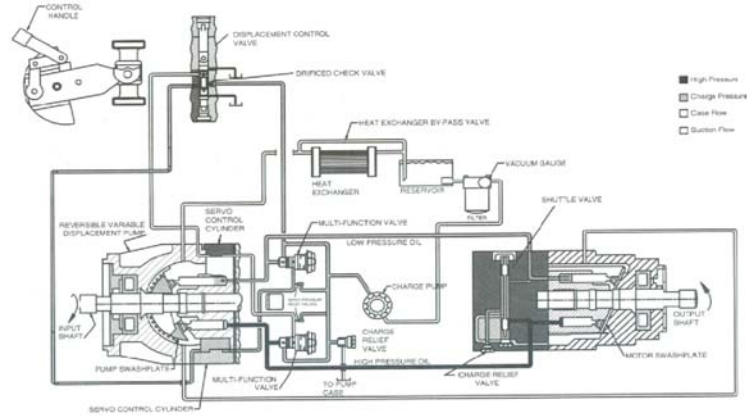

FIGURE 6.22 Shuttle valve in motor end of hydrostatic transmission.
- A larger transmission requires more cooling flow at the motor; thus the shuttle valve and second charge relief at the motor end (Refer Fig 6.22).